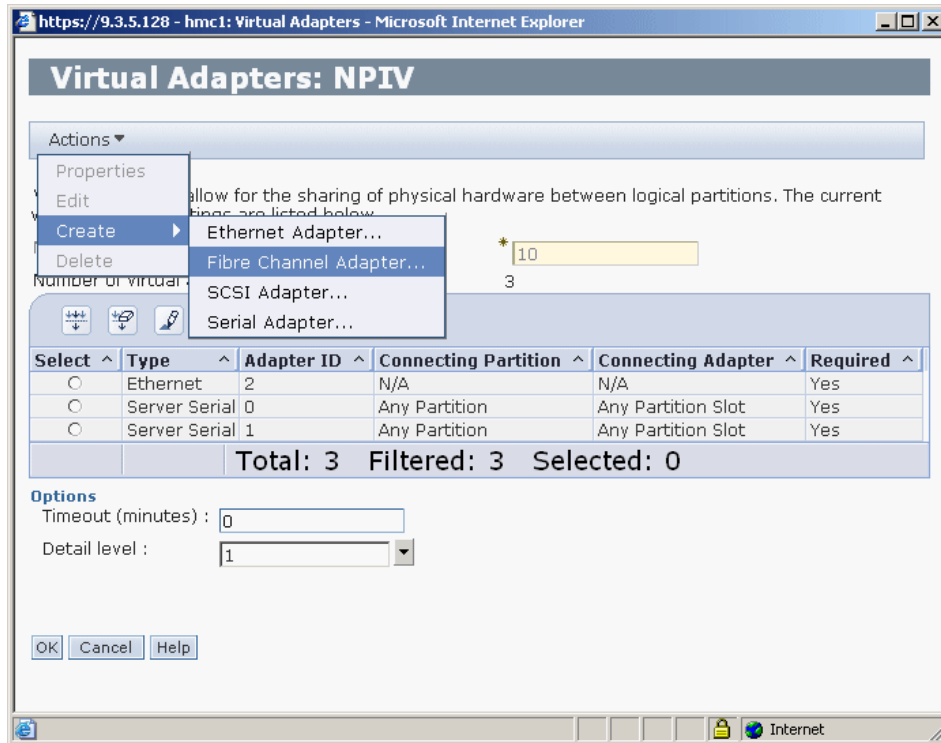

Figure 2-47 Create virtual Fibre Channel client adapter in NPV partition
- Click **Actions** → **Create** → **Fibre Channel Adapter...** as shown in Figure 2-47.